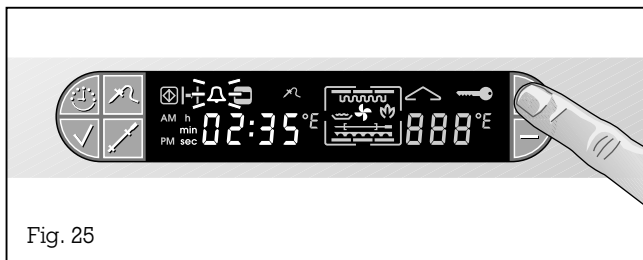

Fig. 25
- Press the + key. The short time symbol  $\Delta$  flashes (Fig. 25).